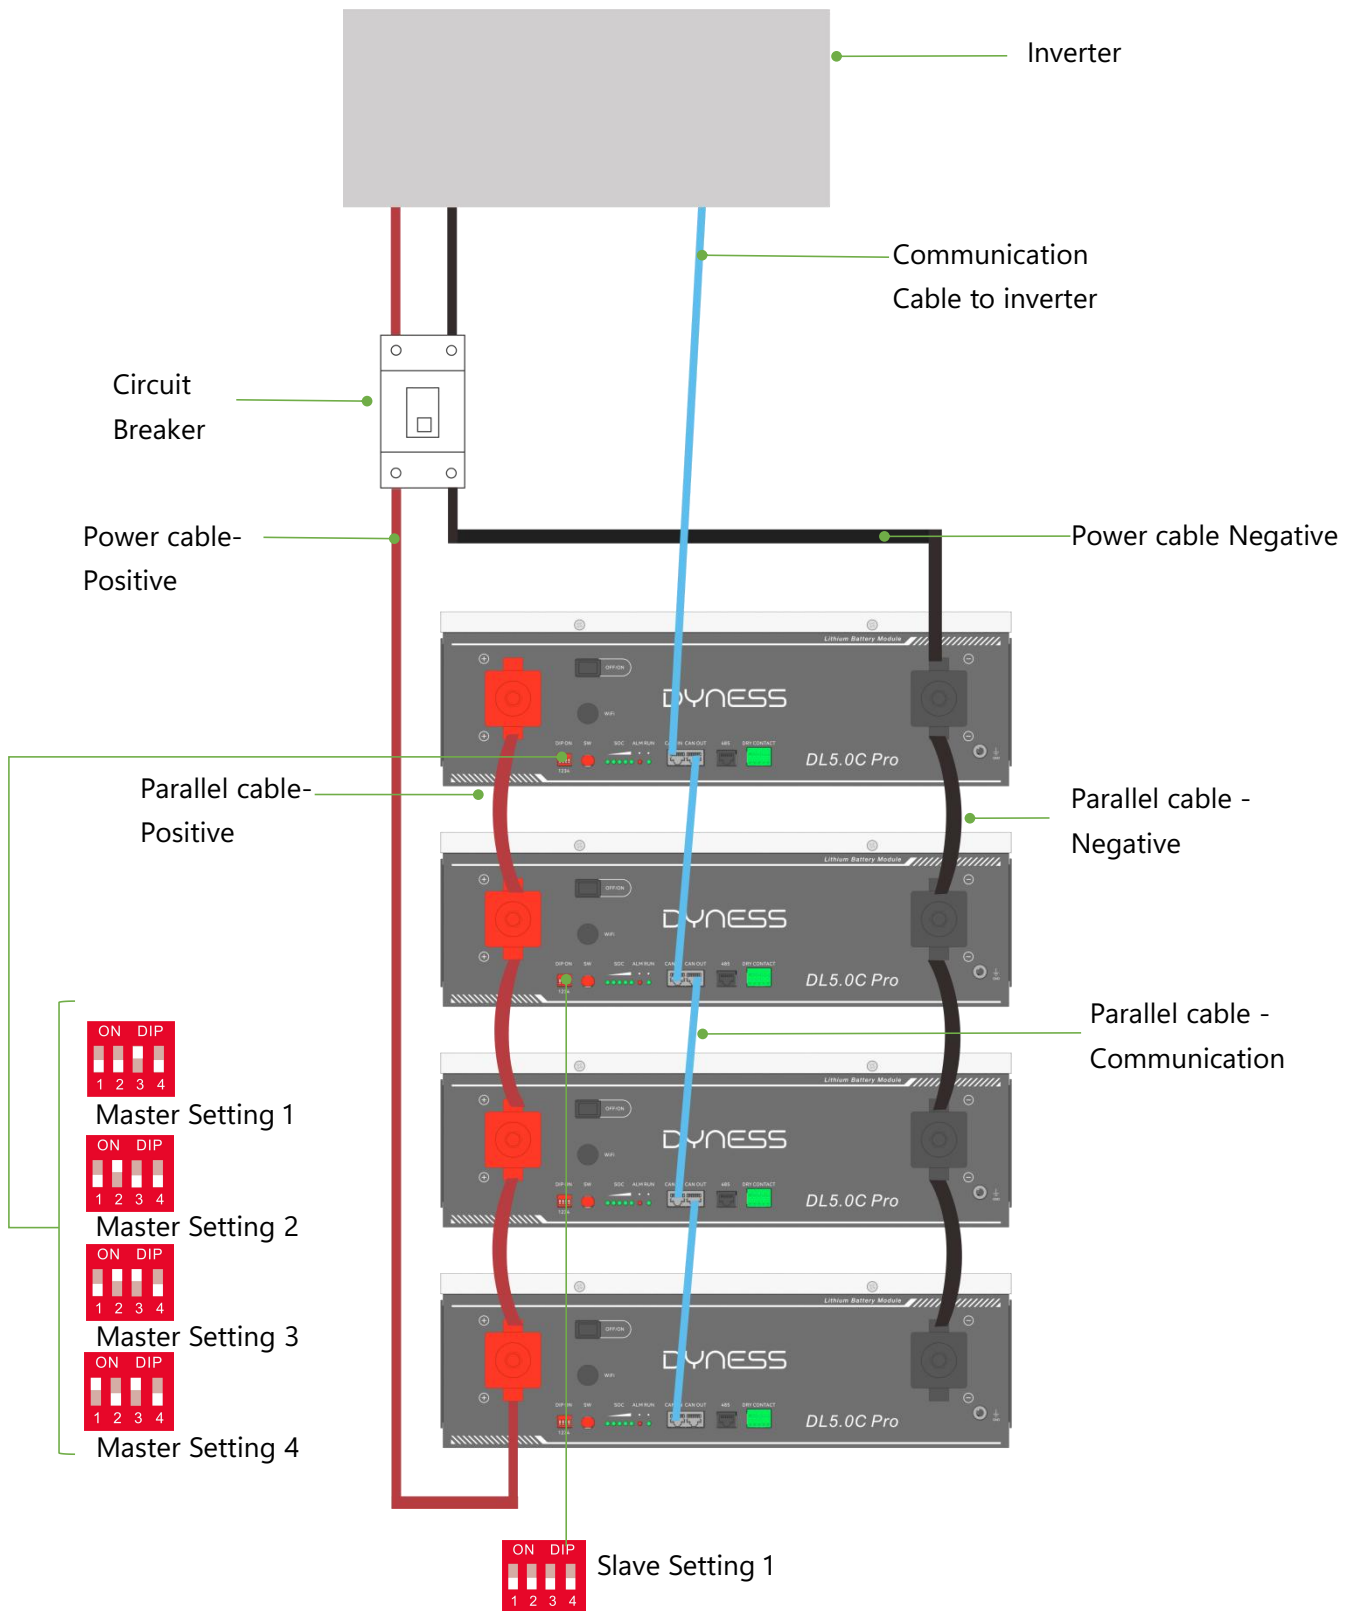

Figure 3-9
2. Battery module parallel cable installation(Refer to Figure 3-9)
3. Parallel communication cable connection(Refer to Figure 3-9)
The circuit breaker is installed between the battery module and the inverter, as shown in Figure 3-9: